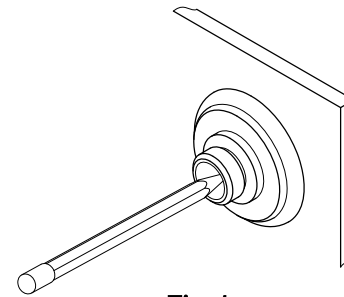

Fig. 1
- Step 1. Locate position on the wall and mark outline of cover plate on the wall (Fig. 1).
- Step 2. Locate wall bracket in the center of outline. Mark location of the mounting screw (Fig.1) and drill holes at the marked location.